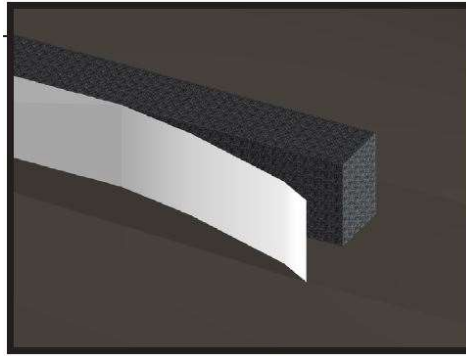

Figure 6
3. Remove the release liner on both sides of the EJM-PBF. See **Figure 6**